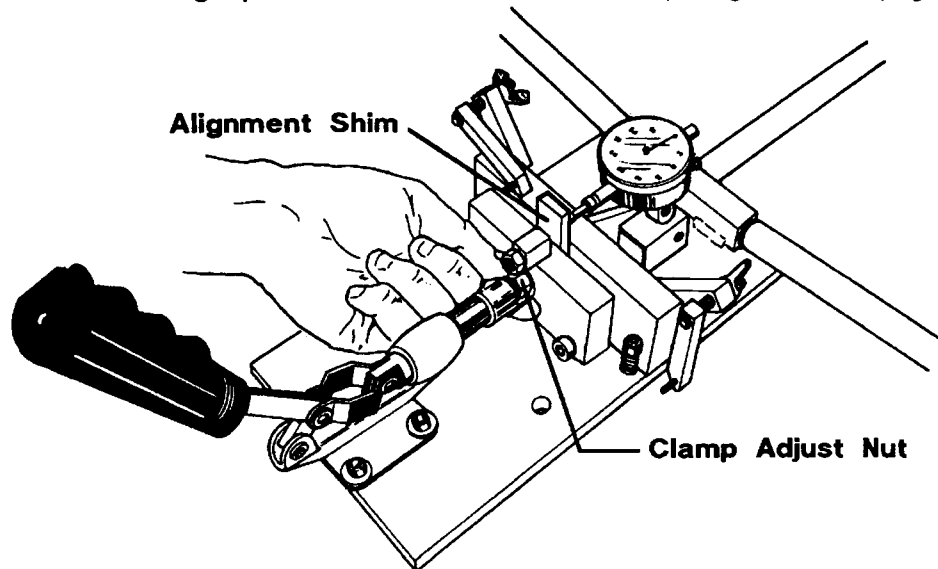

FIG 2-52
1. Turn the plastic housing to adjust the clamp nut (See Figure 2-52) so the alignment shim can be clamped firmly in the middle of the clamping fixture, directly in front of the gauge foot (be sure the setting point is adjusted back as not to contact the shim). The clamping fixture is opened and closed by throwing the clamp handle forward and back. The clamp nut allows you to open the space between the clamping plates for different thicknesses of blades. It should be adjusted so that a light push on the handle locks the blade (or alignment shim) tight.